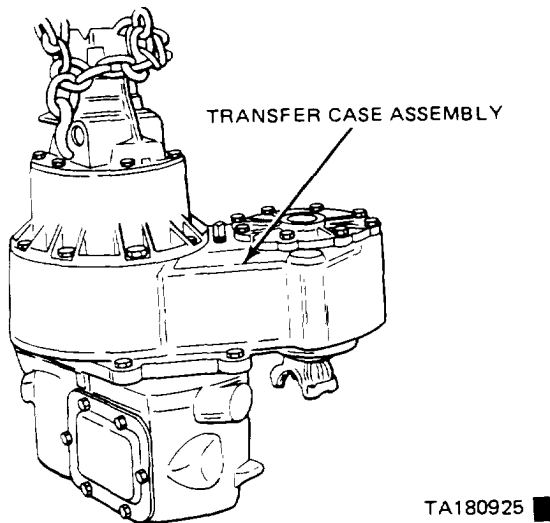
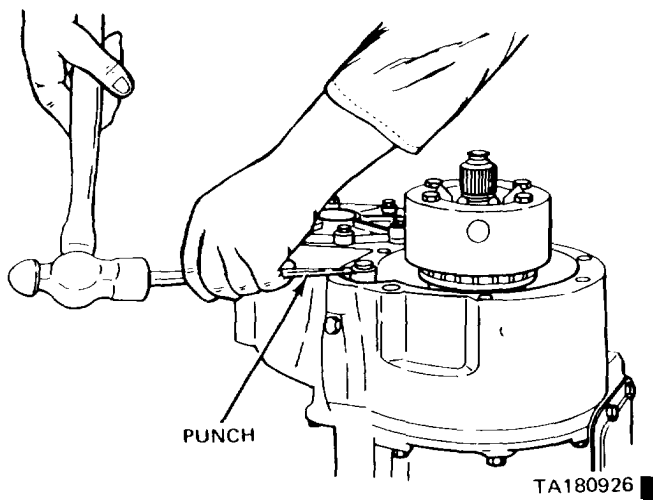

Figure 17-4. Positioning Transfer Case on Blocks
Figure 17-5. Removing Retaining Pin.
(5) Using a jack or other suitable lifting device, position the transfer case on blocks (figure 17-4).
(6) Remove the differential housing retainer bolts and disengage the assembly from the transfer case. Remove and discard all gaskets.
(7) Slide the carrier unit from the shaft. A 1-1/2 to 2 inch band-type hose clamp may be installed on the input shaft to prevent losing the bearings when removing the input shaft assembly from the range box.
(8) Raise the shift rail and drive the retaining pin out of the shift fork. (figure 17-5).